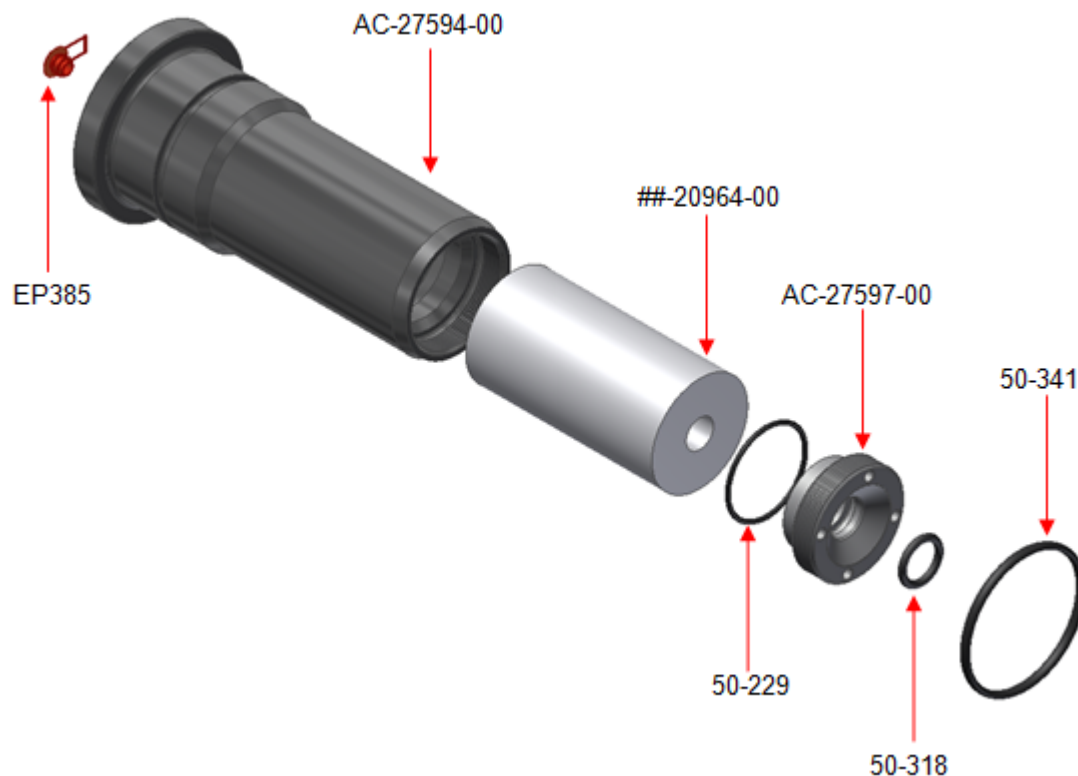

Figure 31 - Disassembled receptacle protective cap
- Disassemble the Protective Cap by unscrewing (AC-27597-00) with appropriate pin spanner, then removing all 'O' rings and internal parts. (See figure 31)
- Reassemble cap using a small amount of silicone grease on the O rings. (See figure 31).